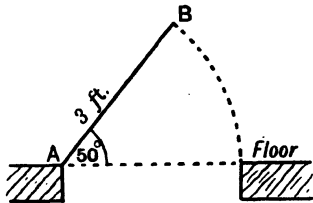

FIG. 95. DIAGRAM FOR EXAMPLE 2
2. A trap door, AB, in the floor is raised so as to make an angle of 50° with the floor, Fig. 95. How high is B above the floor?